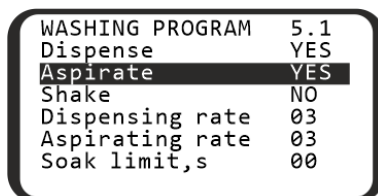

Figure 11. Program parameters
5.8.3. To navigate the parameters menu (figure 11):